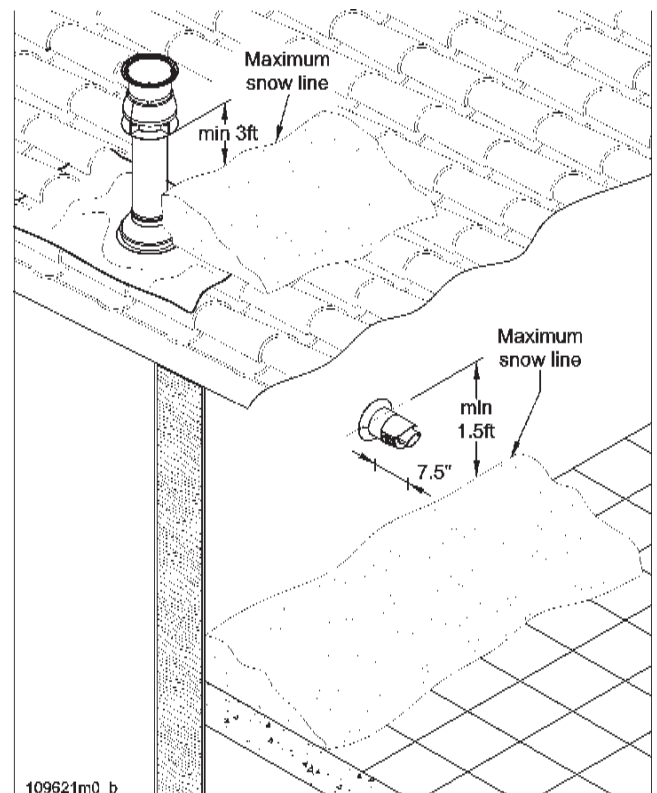

Figure 33 - Clearances for the coaxial vent terminal
- ☞ The “Coaxial 60/100PP” system should extend out of the wall to the dimensions shown in figure 33.
CAUTION!!! Maintain the distances given in figure 33, between the vent terminal and the wall and also between the vent terminal and the ground level (snow line)